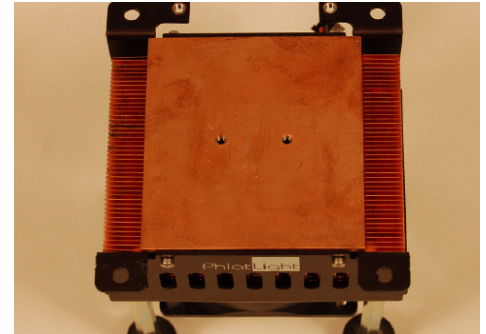

Figure 10: Pre-drilled holes
2. Place the thermal pad on the heat sink with pre-drilled holes matching the hole pattern on the heat sink (Figures 10 and 11).